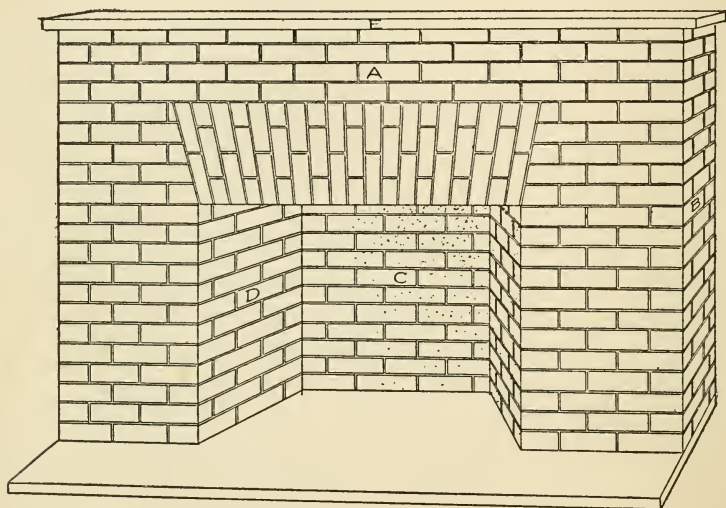

FIG. 93. — The Living-room Mantel.
**A Mantel and Fire-place** in the living-room of the house, and it had better be built in at this point. Figure 93 shows about the simplest form of mantel you can make, and one that presents a very neat appearance. It is made out of cigar-box strips painted to
place, and one of *E* for the mantel-shelf. These pieces, with the exception of *E*, should be painted red, and striped off, when dry, with white paint to represent brick. It will be much easier to do the painting before fastening the pieces in their proper places. First divide the length and breadth of the pieces into about the number of spaces shown in Fig. 93 with a lead pencil. Then with a small brush, and straight-edge for a guide, trace over the pencil lines with white lead. Be careful in striping the brick to get the courses the same upon each piece so they will correspond when the pieces are put together.
**The Hearth** is made out of a strip seven inches long by two inches wide. Upon this the mantel should be put together with the pieces prepared. Figure 93 shows the location of each piece, and with the aid of glue and some small brads it will be a simple matter to complete the mantel. The edges of the strips had best be mitred to make neat joints. Paint the hearth and mantel-shelf white.